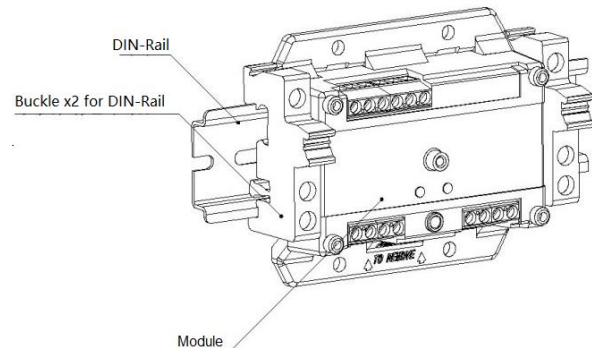

Fig. 2
- 2) The module can be mounted on a 35mm DIN-Rail as shown on Fig. 2.